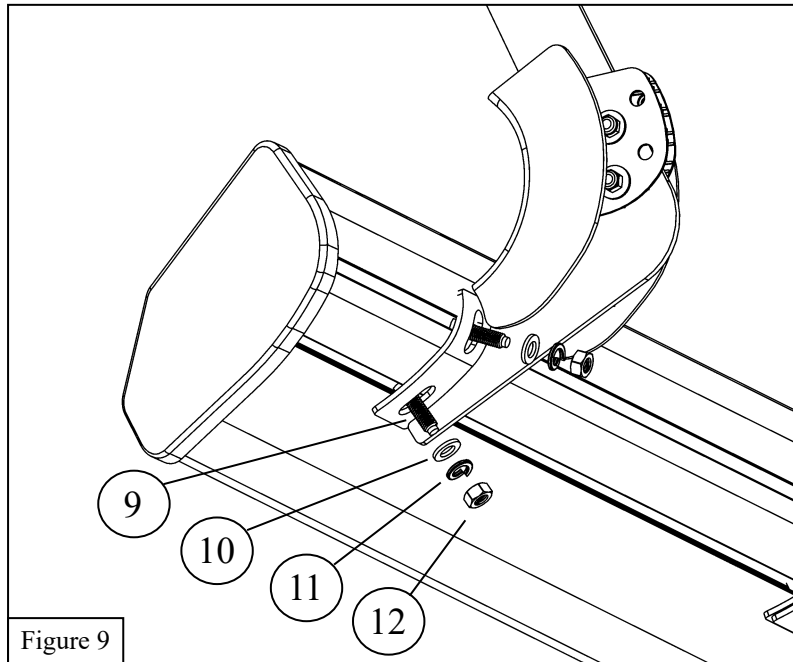

Figure 9
9. Mount the Running Boards (**items 1 and 2**) to each bracket using the M8 Square-Head Screws from the previous step and the remaining hardware (**items 9, 10, 11, 12**). See **Figure 9**.